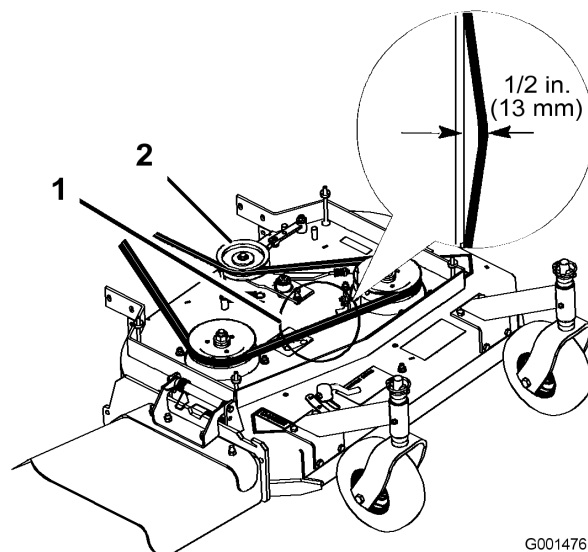

Figure 32
- Remove the idler pulley and the worn belt (Figure 32).
Note: The proper mower belt tension is 10-15 lbf. (44-67 N) with the belt deflected 1/2 inch (13 mm) halfway between the pulleys (Figure 32).